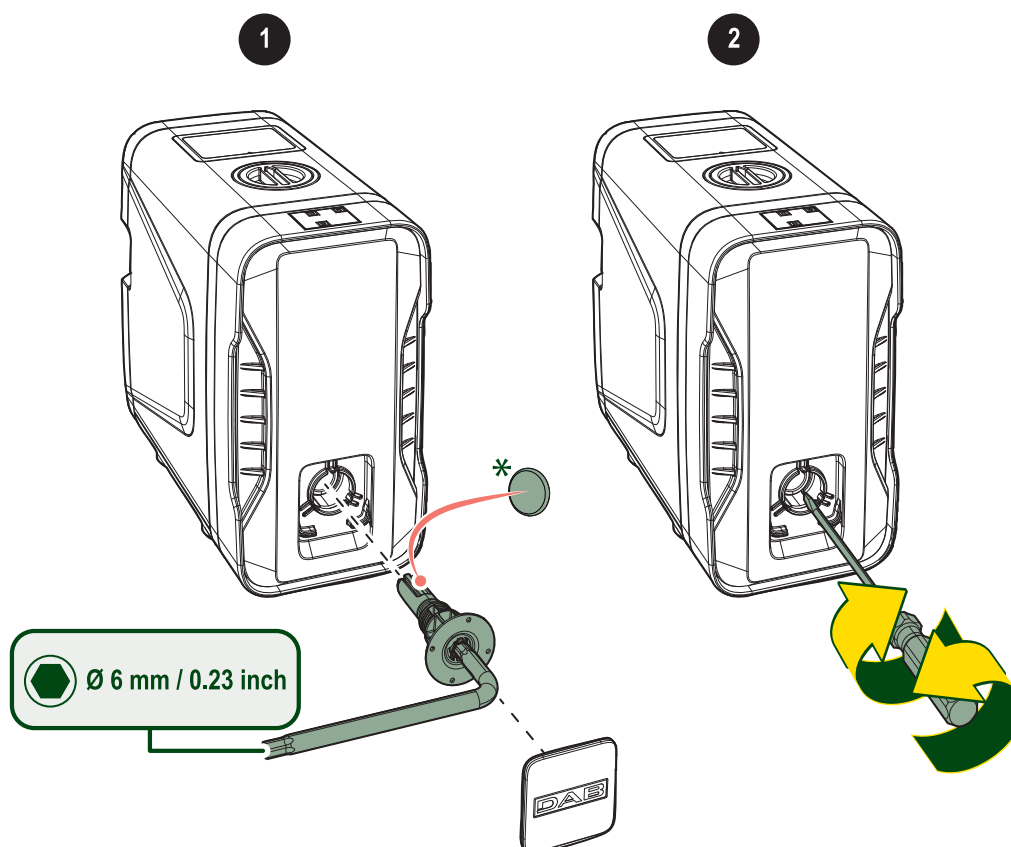

Fig. 21 Access to motor shaft
- remove the access cap from the motor shaft using a 6 mm Allen key (see Fig. 21 Access to motor shaft)